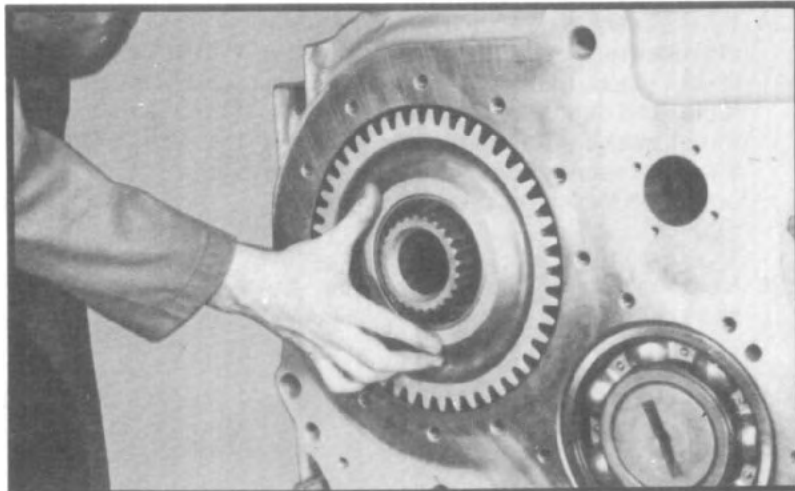
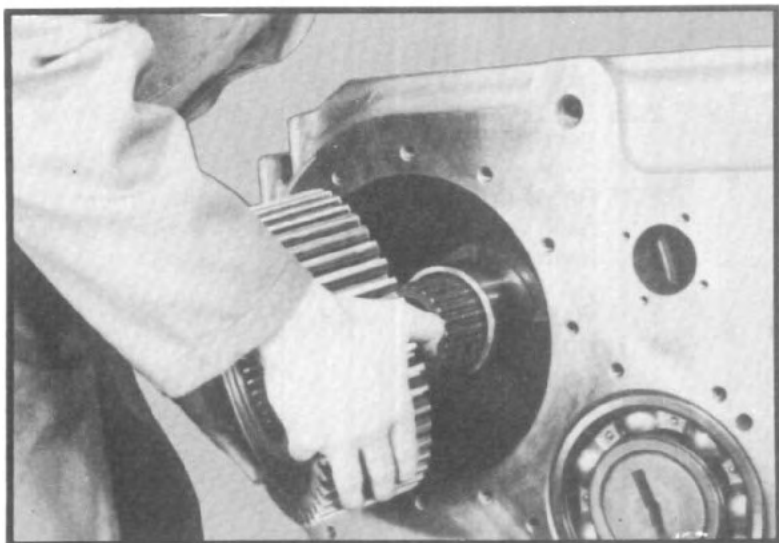

Fig. 55
Fig. 56
- 2.22 Slide direct drive gear from lower shaft through rear case bore (See fig. 55.) and remove gear from shaft. (See fig. 56.) Remove two needle bearing assemblies from shaft or from inside the gear.